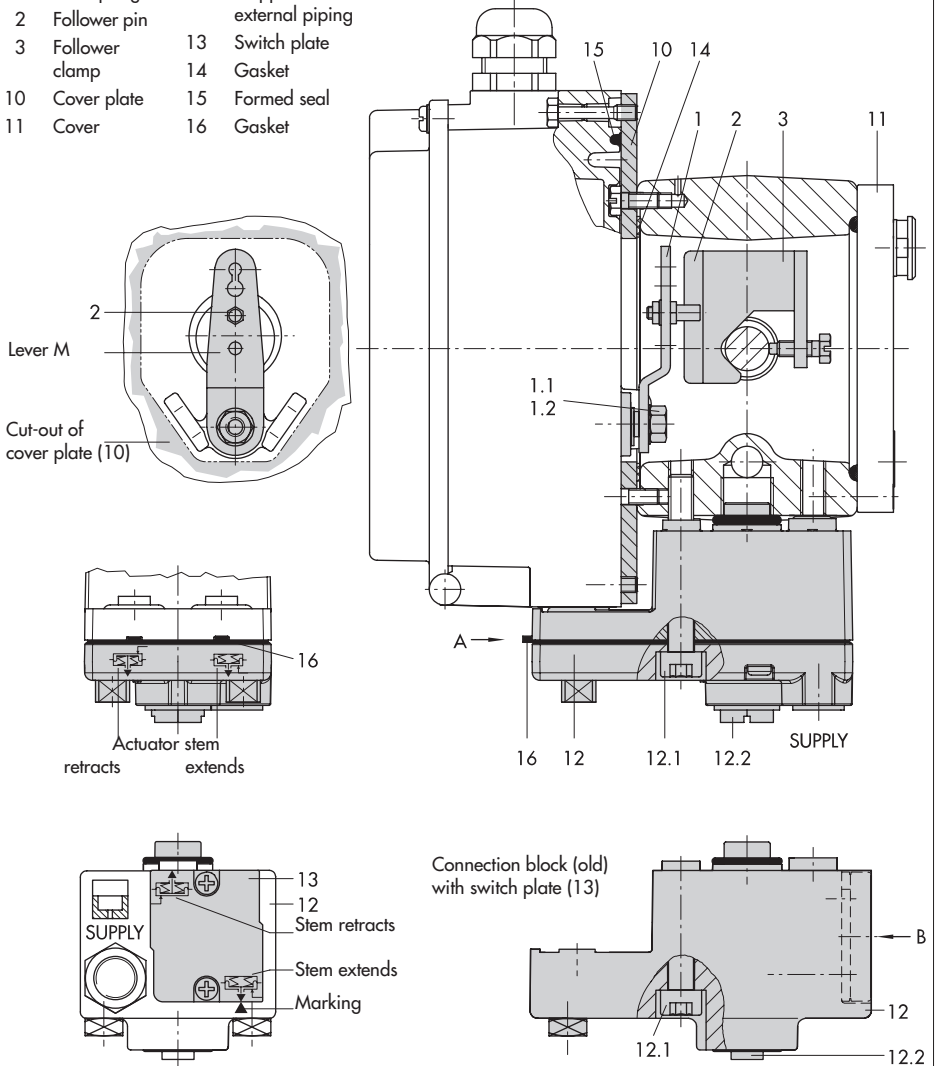

Fig. 5 · Direct attachment – signal pressure connection for Type 3277 Actuator with 240, 350 and 700 cm²
1. Place follower clamp (3) on the actuator stem, align and screw tight so that the mounting screw is located in the groove of the actuator stem.
2. Mount cover plate (10) with narrow side of the cut-out opening (Fig. 5, left) pointing towards the signal pressure connection. Make sure that the bonded gasket (14) points towards the actuator yoke.
3. For actuators with 700 cm², remove the follower pin (2) at lever **M** (1) on the back of the positioner from pin position **35**, reposition it in the bore for pin position **50** and screw tight.
4. Insert formed seal (15) in the groove of the positioner casing.
5. Place positioner on the cover plate so that the follower pin (2) rests on the top of the follower clamp (3). Adjust the lever (1) correspondingly and open the positioner cover to hold the positioner shaft in position at the cap or the switch (Fig.). The lever (1) must rest on the follower clamp with spring force. Mount the positioner on the cover plate (10) using the two fixing screws.
6. Make sure that the tip of the gasket (16) projecting from the side of the connection block (12) is positioned above the actuator symbol that corresponds with the actuator with fail-safe action "actuator stem extends" or "Actuator stem retracts." If necessary, remove the three fixing screws and the cover. Then reposition the gasket (16) turned by 180°. The previous version of the connection block (Fig. 5, bottom) requires the switch plate (13) to be turned such that the corresponding actuator symbol points to the marking.
7. Place the connection block (12) with the associated seal rings against the positioner and the actuator yoke. Screw it tight using the fixing screw (12.1). For actuators with fail-safe action "Actuator stem retracts", additionally remove the stopper (12.2) and fit on the external signal pressure piping.
8. Mount cover (11) on the other side. Make sure that the vent plug points downwards when the control valve is installed to allow any condensed water that collects to drain off.